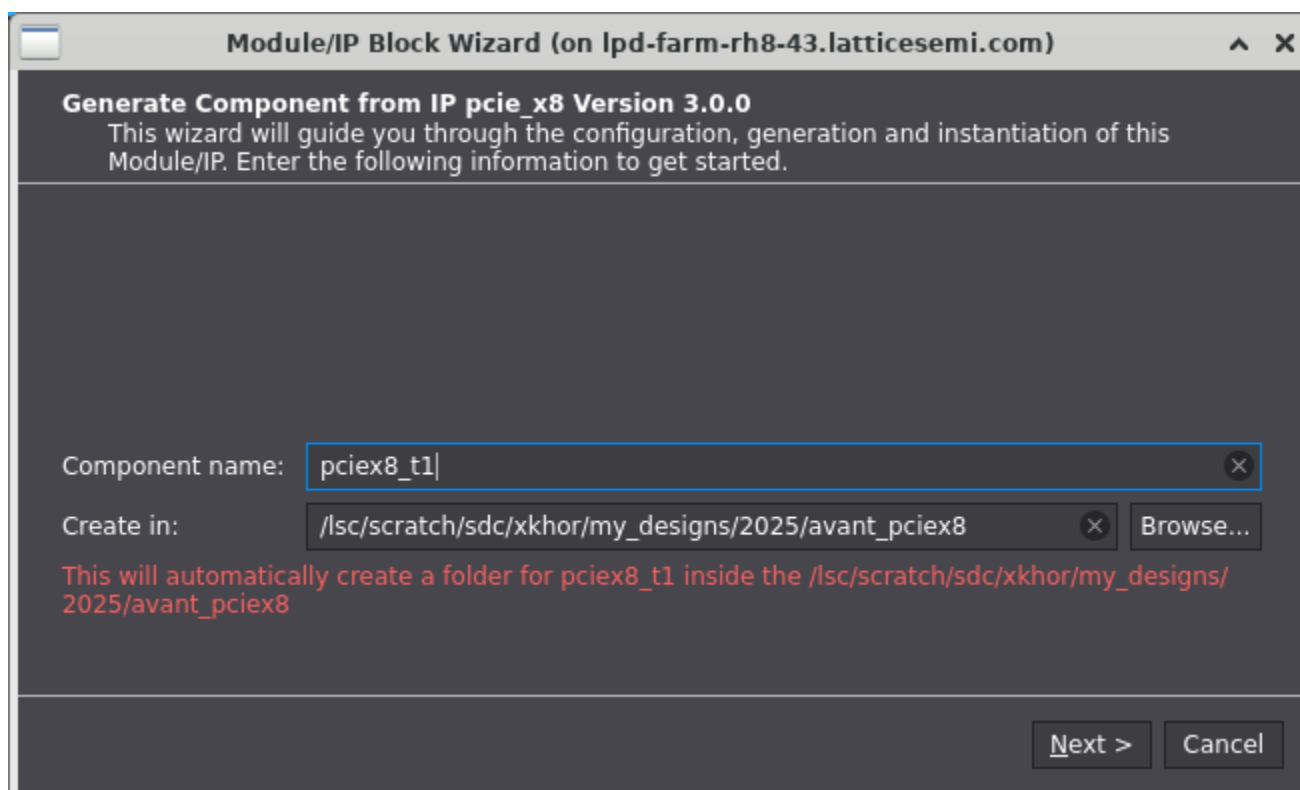

Figure 7.1. Module/IP Block Wizard
2. In the **IP Catalog** tab, double-click **PCIe_X8** under **IP, Connectivity** category. The **Module/IP Block Wizard** opens as shown in Figure 7.1. Enter values in the **Component name** and the **Create in** fields and click **Next**.
5. Click **Finish**. All the generated files are placed under the directory paths in the **Create in** and the **Component name** fields shown in Figure 7.1.